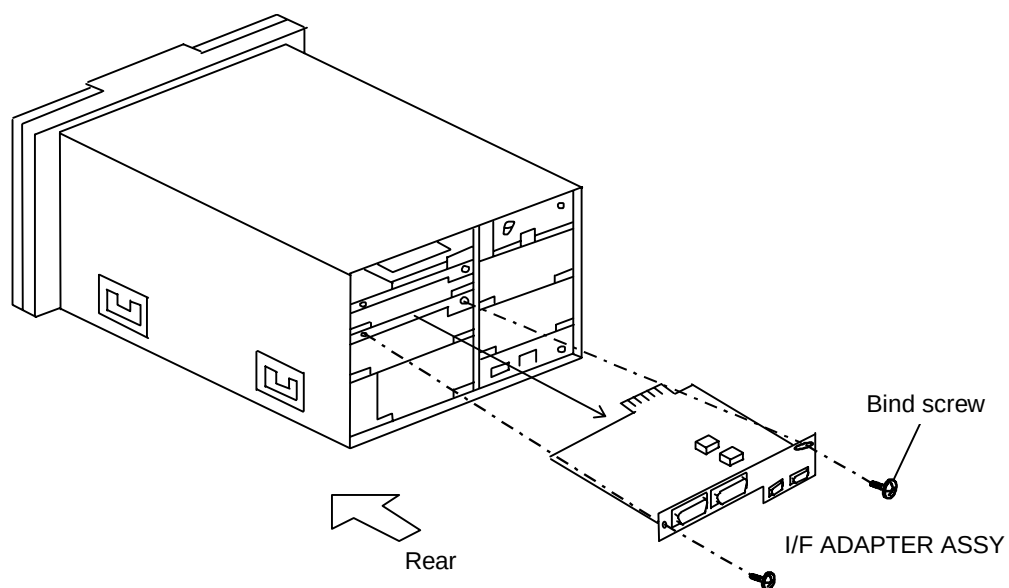

Figure 3.2.6 Setting I/F ADAPTER ASSY
3.2.4 Setting I/F ADAPTER ASSY (See Figure 3.2.6.)